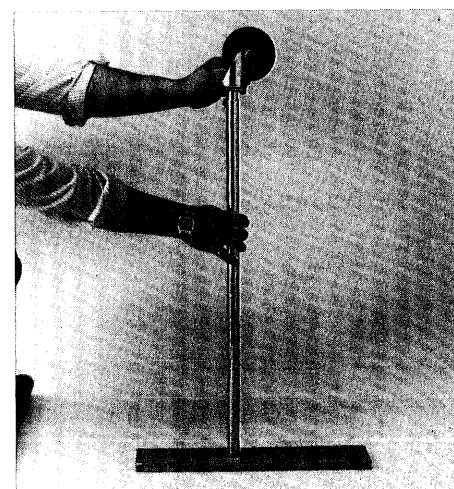

Fig. 2
3. Place a wooden block on the floor. Lift both post and caster approximately 5" to 6" above block and tap assembly until caster stem seats. (Bottom of post contacts top of caster swivel) (Fig. 2).